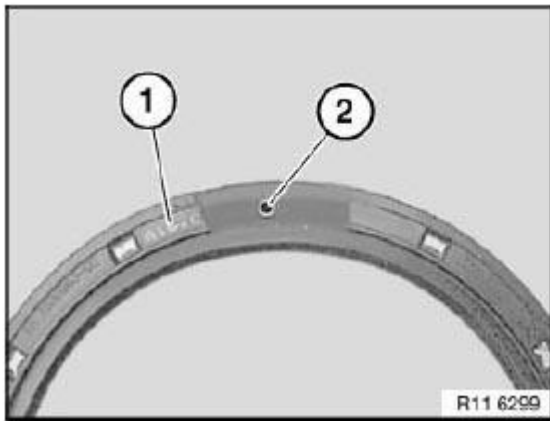

Fig. 89: Identifying Rubber Coating On Top Side Of Crankshaft Radial Seal
NOTE: If necessary, remove rubber coating (1) on top side of crankshaft radial seal and expose a removal opening (2) (see **Fig. 89**).